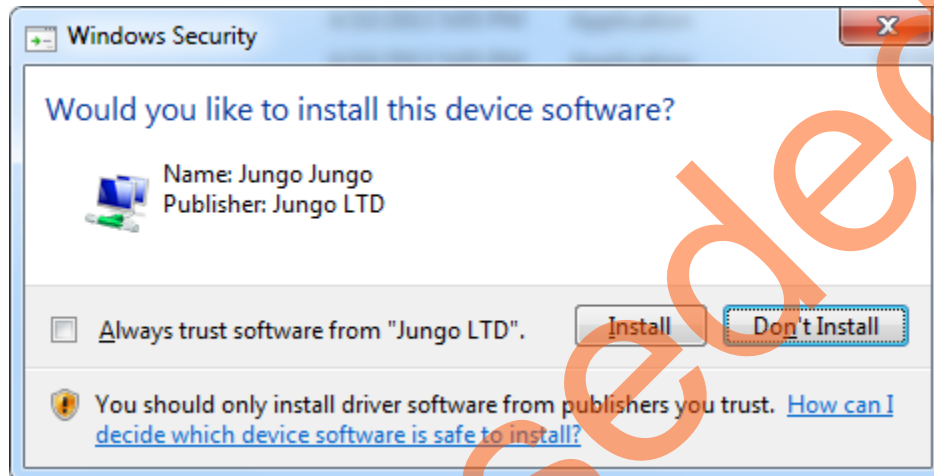

Figure 50 • Jungo Driver Installation
3. Click **Install** if the window is displayed as shown in Figure 50.